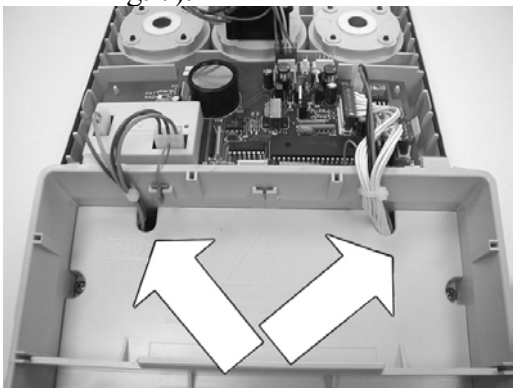

Figure 6
- 7.0 Replace the upper partition by placing it in its proper orientation and routing the two cable harnesses from the power supply through the slots along the upper edges of the partition. The harness from the left side of the power supply should exit through the left slot and the right harness through the right slot (Fig. 6). Replace the two screws that hold the partition in place.